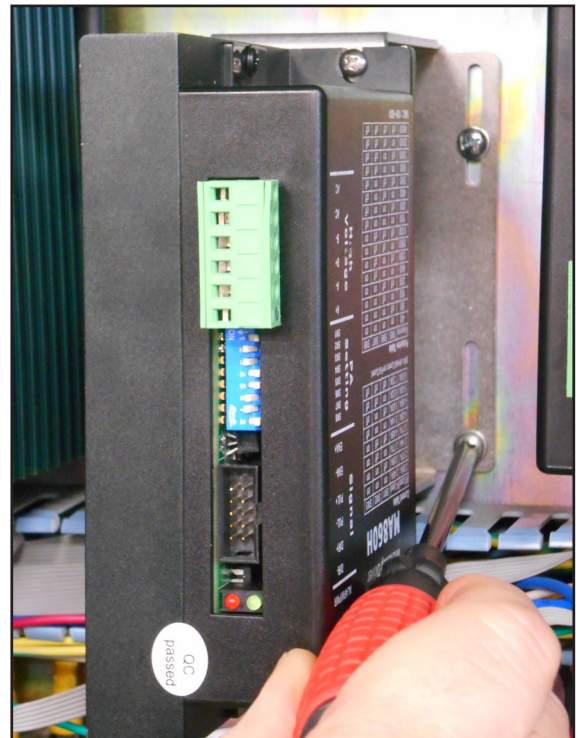

Figure 4
5. Install the replacement *Axis Driver* and attached *Bracket* in the electrical cabinet (see **Figure 4**).